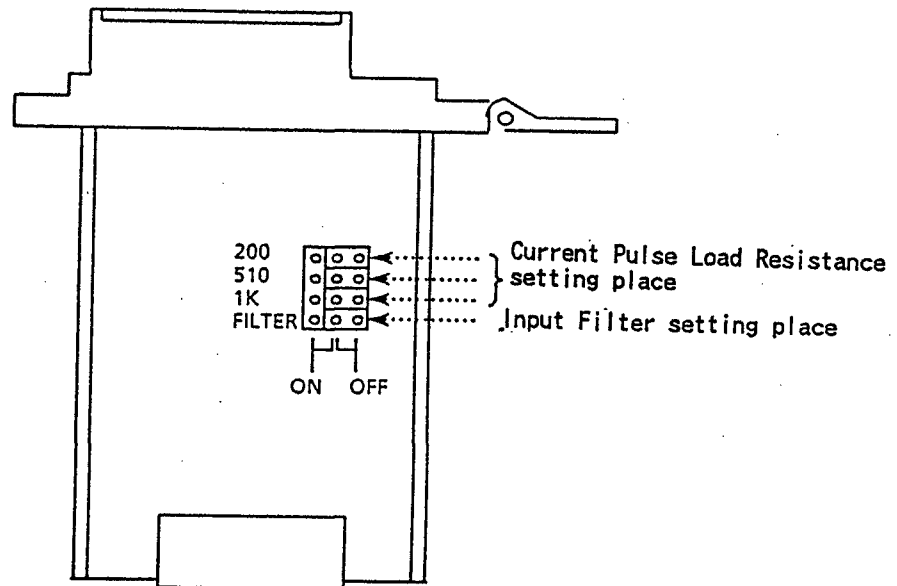

Fig. 4.4 DP1 - Current Pulse Load Resistance-Input Filter ON/OFF Setting Pin
Table 4.2 shows correspondence between setting pin and current pulse load resistance. The setting method is to insert short-circuit socket and make short-circuit two (2) setting pins. (See Fig. 4.4, 4.5)
When shipment from factory, short-circuit sockets are inserted into off side as shown in Fig.4.4.
ON/Off switch of input filter is located at the bottom of setting pin. (See Fig. 4.4)